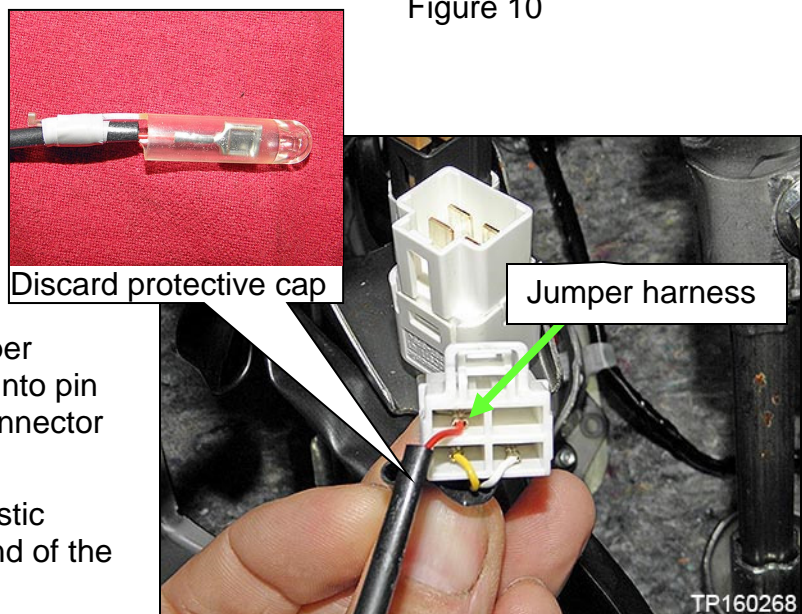

Figure 11
10. Insert the single wire of the jumper harness (part #: 24167-9PB1E) into pin No. 3 of the stop lamp switch connector in vehicle harness (Figure 11).